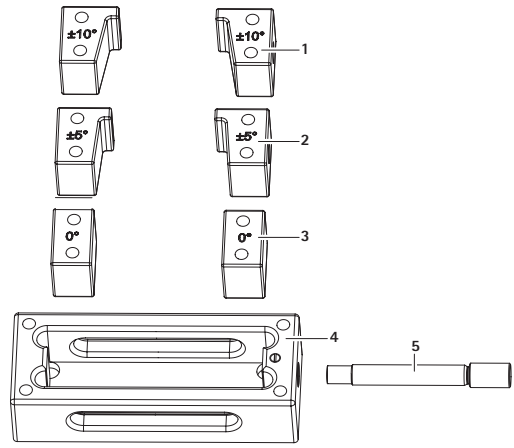

Fig. 1
- ▶ Insert both 0° setting blocks 3 with Hydrolift® implant in the adjusting block 4 and clamp them in hand-tight using threaded rod 5, see Fig 1.